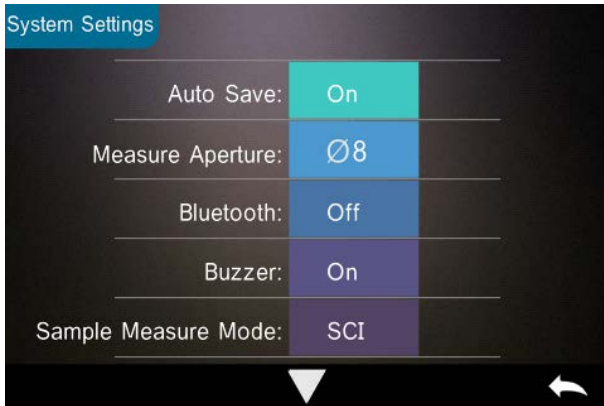
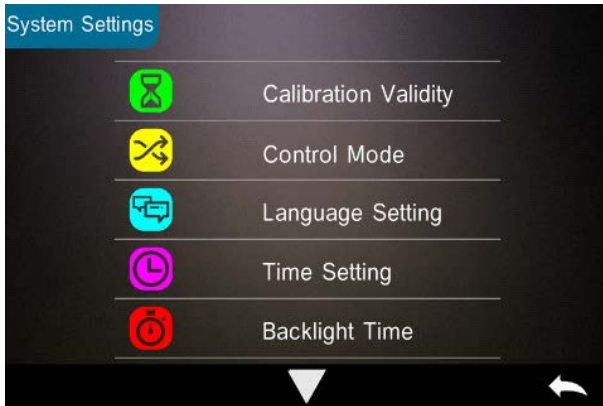
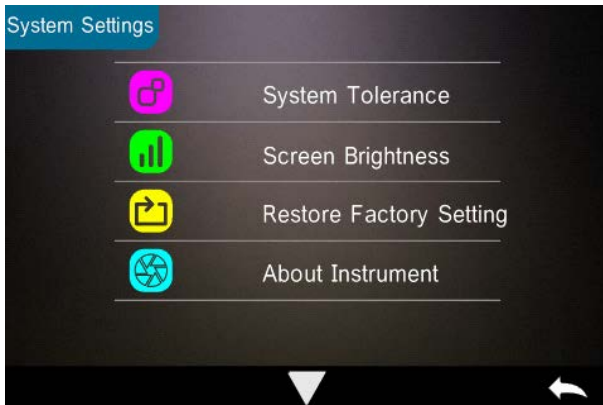

Figure 44 System Settings
Figure 45 System Settings
Figure 46 System Settings
In the main menu, click "System Setting" to view the menus per Figure 44, Figure 45 and Figure 46.
Step 3: Switch the default system measurement aperture in the System Settings (see Figure 44) to correspond with the actual measurement aperture. When the measurement aperture is switched, it is essential to re-calibrate the instrument according to part 2.2.